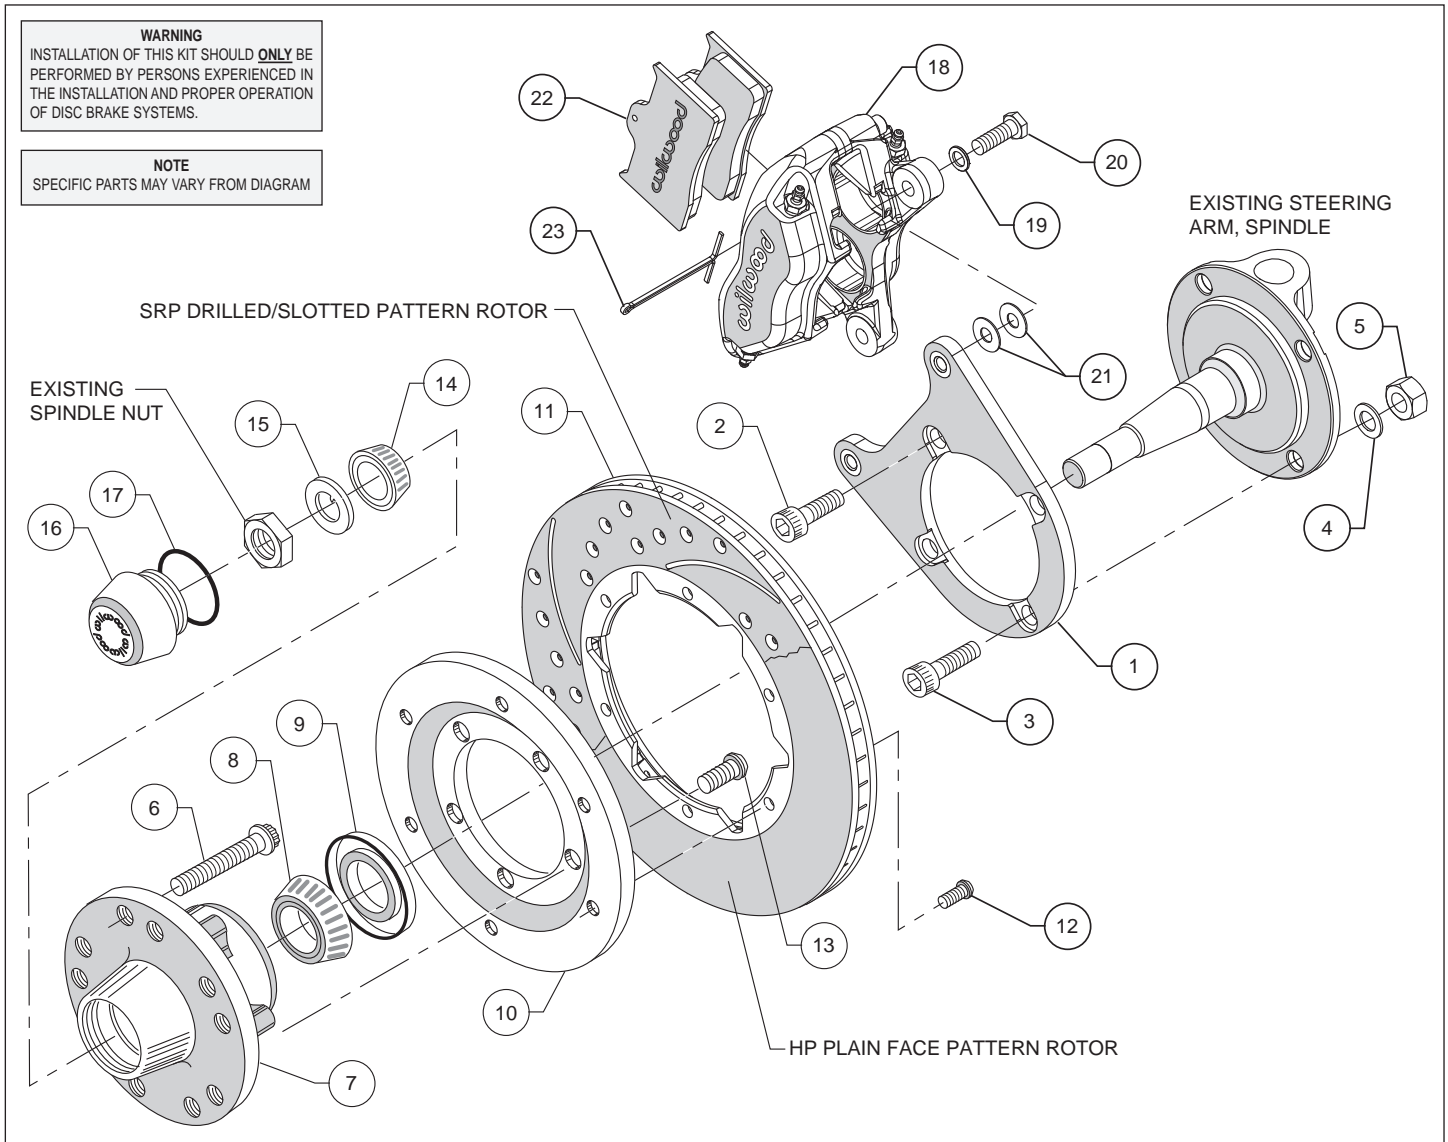
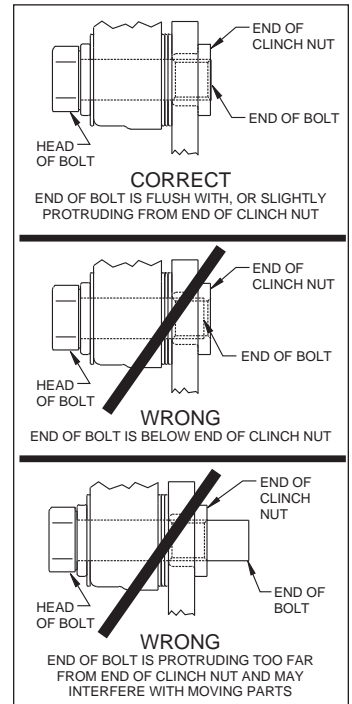

Figure 1. Typical Installation Configuration
Figure 3. Clinch Nut Engagement Diagram
Assembly Instructions (numbers in parenthesis refer to the parts list, on the preceding page and Figure 1): **CAUTION:** All mounting bolts must fully engage clinch nuts. Be sure to check that all bolts are either flush or protruding through flanged side of clinch nut after shimming, Figure 3.
- Align caliper mounting bracket (1) with the corresponding holes, to the face of the spindle. Attach using bolts (2 and 3), washers (4), and nuts (5), as shown in Figure 1 and Photo 1. Temporarily tighten the mounting bolts. Ensure that the flanged heads of the clinch nuts in the bracket are facing outboard, Photo 1. **NOTE:** The bracket must fit squarely against the mounting points on the spindle. Inspect for interference from casting irregularities, machining ridges, burrs, etc. Remove bolts one at a time, apply red *Loctite*® 271 to threads and torque to 77 ft-lbs.
- Pack the large inner bearing cone (8) with high temperature disc brake bearing grease (available from your local auto parts store) and install into the backside of the hub (7), Photo 3.
- Install the grease seal (9) by pressing into the backside of the hub (7), flush with the end of the hub, Photo 3.
- Orient the rotor (11) and the rotor adapter (10) as shown in Figure 1 and Photo 4. Attach the rotor to the adapter using bolts (12). Using an alternating sequence, apply red *Loctite*® 271 to the threads, and torque to 25 ft-lb.
- Mount the adapter/rotor assembly (10/11) to the hub (7) using bolts (13), as shown in Figure 1 and Photo 5. Using an alternating sequence, apply red *Loctite*® 271 to the threads, and torque to 55 ft-lb.
- Screw dust cap (16) into hub (7), Photo 7. Friction created by the o-ring (17) on the dust cap keeps it from unscrewing. **NOTE:** The O.D. of the existing OEM spindle washer may be larger than the I.D. of the dust cap not allowing it to seat against the hub face. Therefore, use the spindle washer (15) supplied with the kit instead of the OEM washer.
- NOTE:** Please reference the caution statement at the beginning of the assembly instructions. Mount the caliper (18) onto the caliper mounting bracket (1) using bolts (20) and washers (19), as shown in Figure 1. Initially place two .035" thick shims (21) on each bolt between the caliper and the bracket, Photo 8. Temporarily tighten the mounting bolts and view the rotor (11) through the top opening of the caliper. The rotor should be centered in the caliper, Photo 9. If not, adjust by adding or subtracting shims between the bracket and the caliper. Always use the same amount of shims on each of the two mounting bolts. **NOTE:** The end of each bolt must be flush with or slightly protruding from the head of the clinch nut, as shown in Figure 3. If necessary place spare shims between washer (19) and caliper mounting ear to achieve the proper clinch nut engagement. Once the caliper alignment and clinch nut engagement are correct, remove the bolts one at a time, apply red *Loctite*® 271 to bolt threads, and torque to 40 ft-lb.